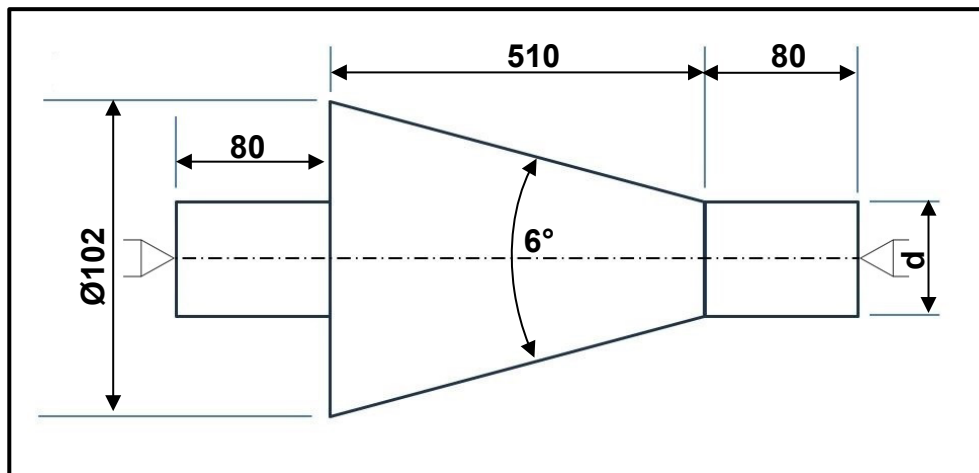

FIGURE 5.2
- 5.2 FIGURE 5.2 below shows a taper with an included angle of 6° which should be machined between centres. (2)